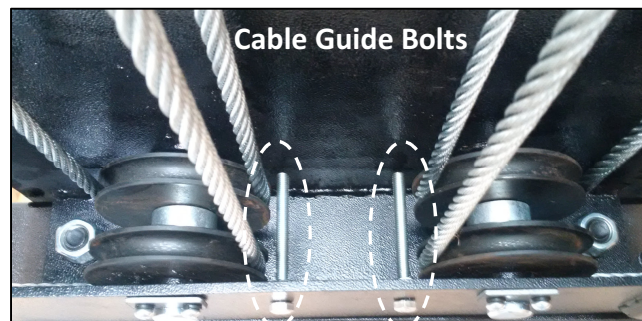

Fig. 7
18. Install Cable Guide Bolts & Nuts (#21B) to the underside of the Mainside Runway at each end, as illustrated in Fig. 7. Four Guide Bolts will be installed at one end and two at the other end. **Note: Cable Guide Bolts assists in keeping the Cables properly engaged to the Pulleys.**